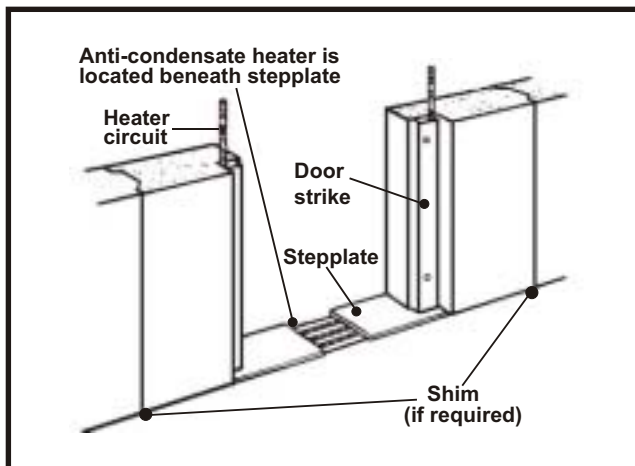

Fig. 25
- C. Shim as required to make the door section level with the adjoining vertical panels. See Fig. 25.